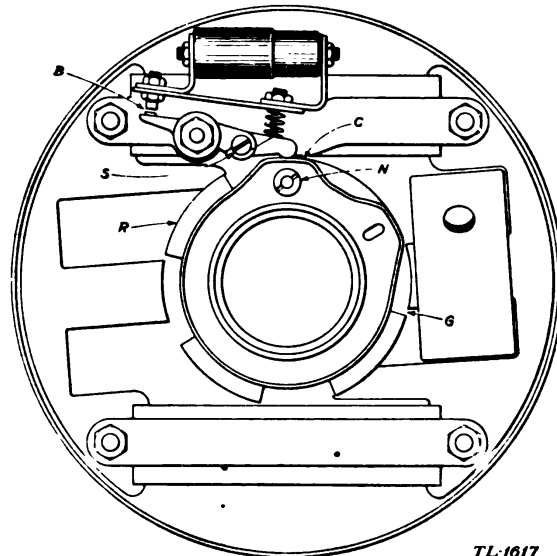

FIGURE 20.—Breaker contact adjustment, Wico magneto.
(1) *Adjusting breaker points* (fig. 20).—Turn the rotor assembly *R* to bring the highest point of the cam *C* in contact with the breaker lever causing the breaker points *B* to open to the maximum distance. Loosen the adjusting screw *S* on the breaker lever, insert a feeler gage or a strip of metal 0.010 inch thick between the breaker points, and tighten adjusting screws. The maximum distance the breaker points open should now be equal to the thickness of the gage or 0.010 inch. The engine will not operate properly if the maximum opening of the breaker points is not within 0.007 to 0.010 inch inclusive.